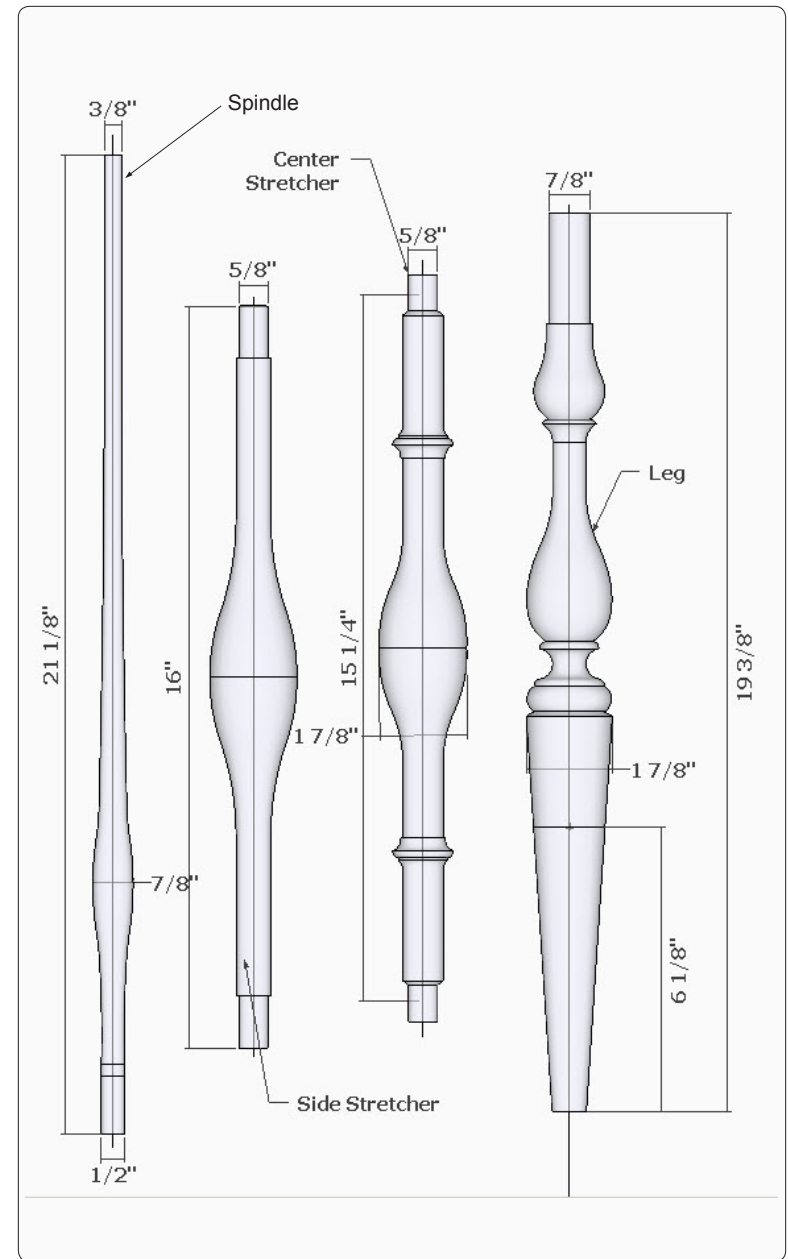
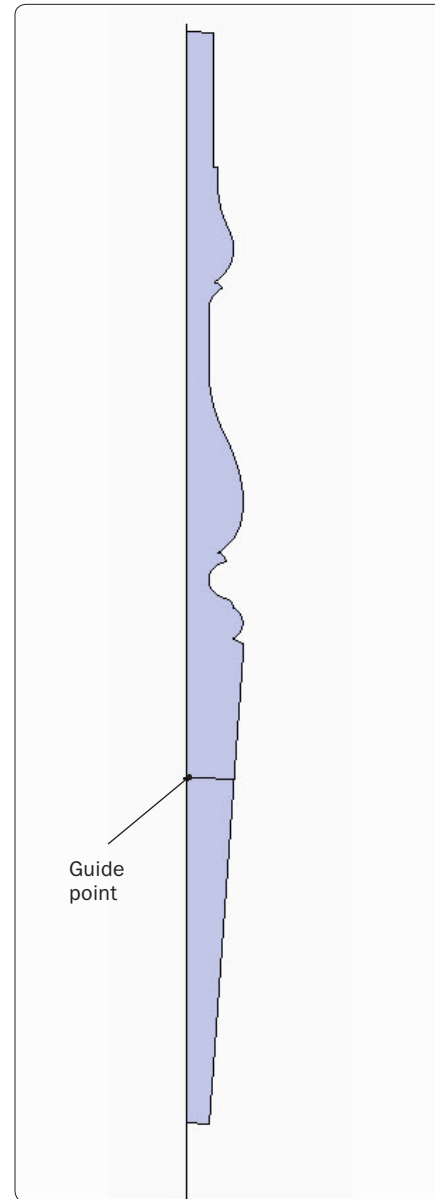
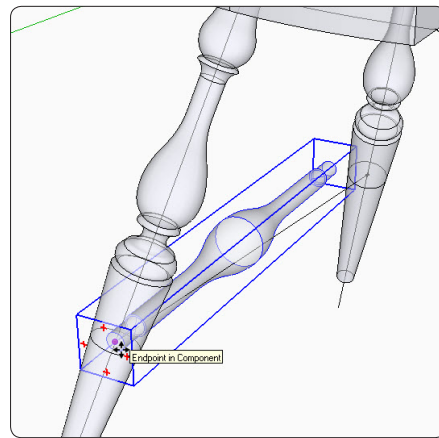

Figure 24. Dimensioned drawings of the four Windsor turnings.
Figure 27. Trace half the profile of the leg, and add a guide point and line to help position the stretcher properly.
Figure 40. Connect the stretcher to the front leg, using the guide points and centerpoints created when you made the turnings.
Step 4 Scan and scale Figure 24, the turnings, and import it into SketchUp. Use the Line and Arc Tools to trace over the leg shape, resulting in a flat face as shown in Figure 27. Add a guide point and horizontal line 6⅛ in. from the bottom, as shown in the figure. This will produce a ring where the stretcher intersects the leg. The extra line means that the leg will have to be “turned” in two stages. Be sure to draw centerline extensions at both ends of the leg shape. They are essential for positioning the legs in the seat.
Step 6 Now, you'll create a centerline model to find the angle and orientation of the front and back legs. Make a centerline diagram, using the leg angles for the front and side, as given in Figure 24. You could use geometry to calculate this compound angle, but I find it easier to do it by intersecting shapes in SketchUp.
Step 12 Make a side stretcher, just as you did the legs, and copy it over to your model. When you make the turning, be sure to include the horizontal centerline, as shown in Figure 24. Use the Move/Copy Tool to connect the center point on the end of the stretcher to the guide point in the front leg. Set the Face View to X-Ray to see the guide point inside the front leg, as shown in Figure 40.